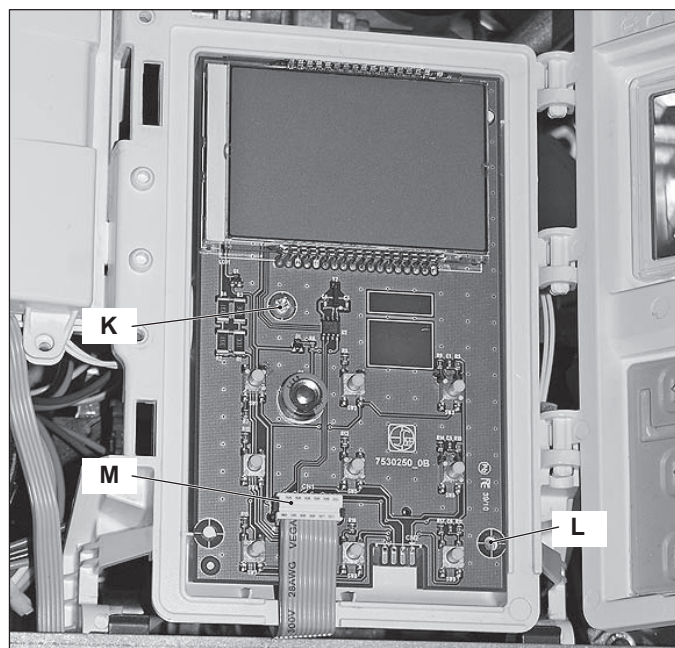

Figure 10.3
- 3 Remove all the wiring M connected to the *Control panel electronic p.c.b.* (Figure 10.3).